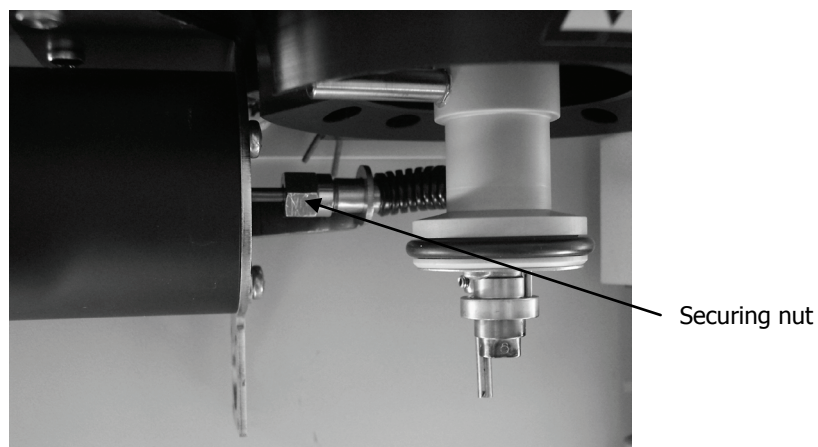

Figure 58 Gas transfer line fully connected
14. Carefully align the end of the gas transfer line with the gas transfer tube, then fit them together and tighten the securing nut (Figure 58).